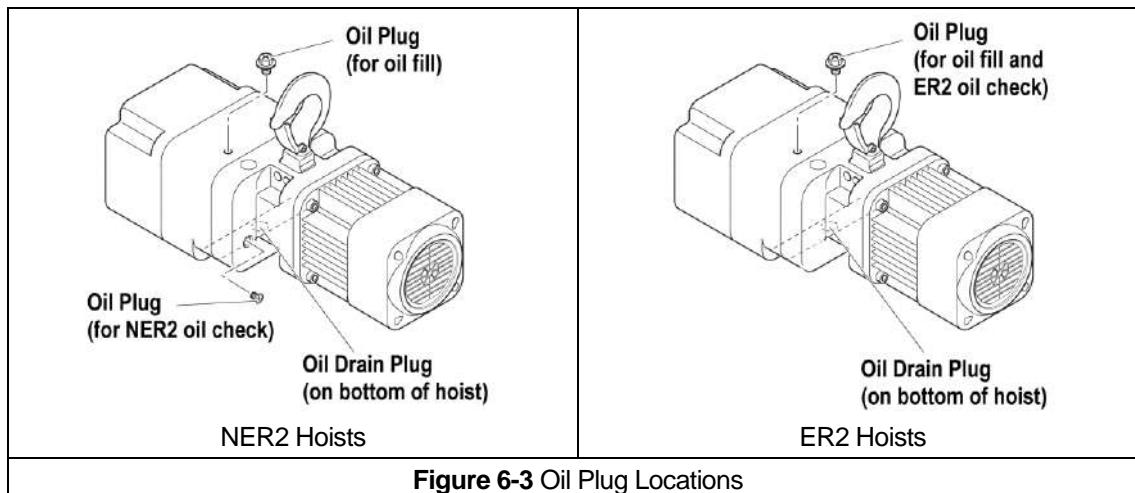

Figure 6-3 Oil Plug Locations
6.3.3 **NER2 OIL LEVEL** – For hoists equipped with a Friction Clutch, the oil level is checked by removing the oil plug on the side of the hoist as shown in Figure 6-3 for NER2 hoists. The oil level should be just below the hole when the hoist is level.
6.3.4 **ER2 OIL LEVEL** – For hoists equipped with a Mechanical Load Brake/Friction Clutch, the oil level is checked through the oil check hole at the top of the hoist. **DO NOT** remove the oil plug exposing the oil level check hole on the side of the hoist. The oil level will be above the hole and will leak out. A dip stick should be used to check the oil level through the top hole as shown in the in Figure 6-3 for ER2 hoists. Reference Table 6-7 for check distances from the top of the hoist body.